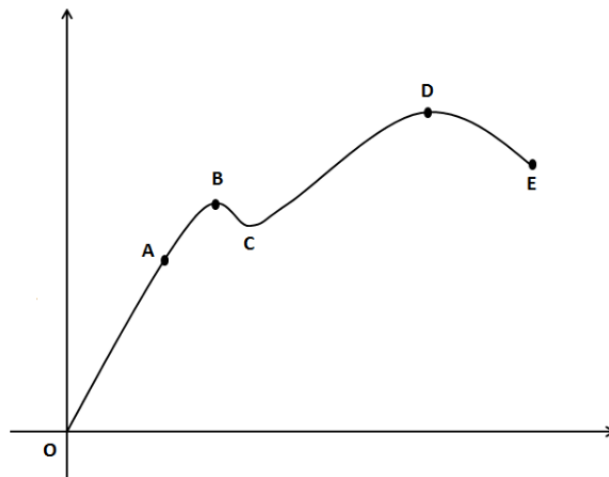

Figure 1(b) / Rajah 1 (b)
(b) Referring to Figure 1(b), the stress versus strain graph for mild steel after tensile testing. Plot **FOUR (4)** important points at the graph and explain the condition of the specimen in between yield point.